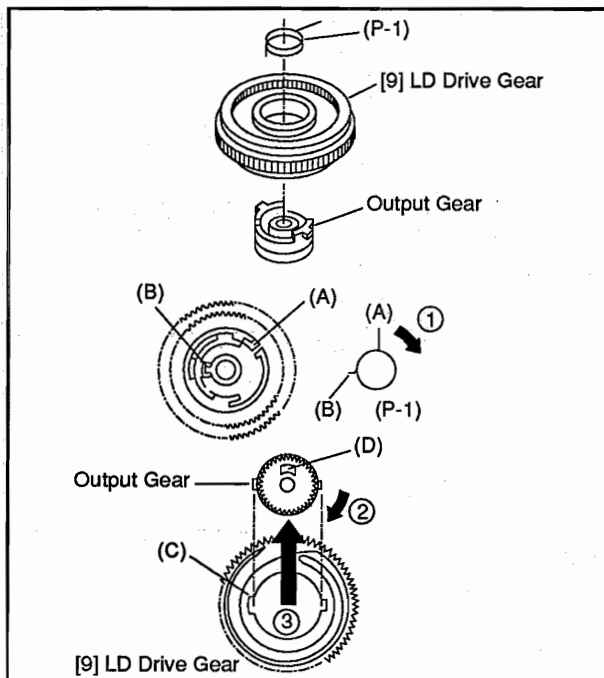

Fig. DM6
Note 9: In order to release Spring (P-1), Fig. DM6, turn the handle(A) clockwise as shown by the arrow 1. After releasing Spring (P-1), turn over the LD Drive Gear and turn the Output Gear clockwise until it stops. Then remove the Output Gear from the LD Drive Gear.
When reassembling, place the LD Drive Gear so the larger notch (C) is to the left and the smaller notch is to the right as shown in Fig. DM6. Then reassemble the Output Gear to the LD Drive Gear with the hole (D) of the Output Gear facing away from you. The two tabs (different in size, though inconspicuous) of the Output Gear should match the notches.